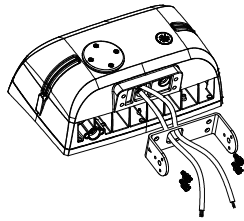

Figure 2-1
- Pass the cable through these aligned holes and secure them to the fixture with the Pivot Bolts (Figure 2-1).